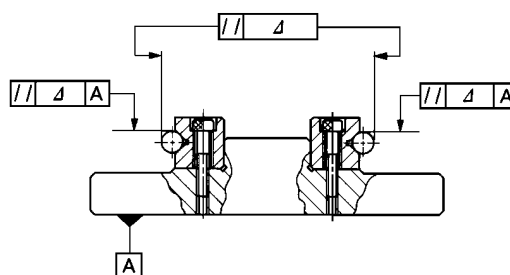

Fig. 3 Mounting accuracy of ways
3. Mounting of ways at bed side (Fig.3)